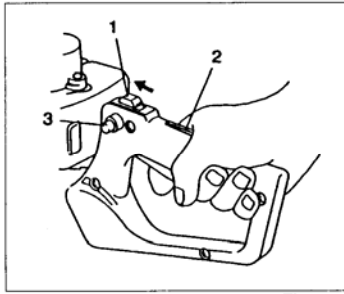

Fig. 2-2
Starting (Fig. 2-2, 2B)
1. Set ignition switch (1) to the ON position. (Fig. 2-2)